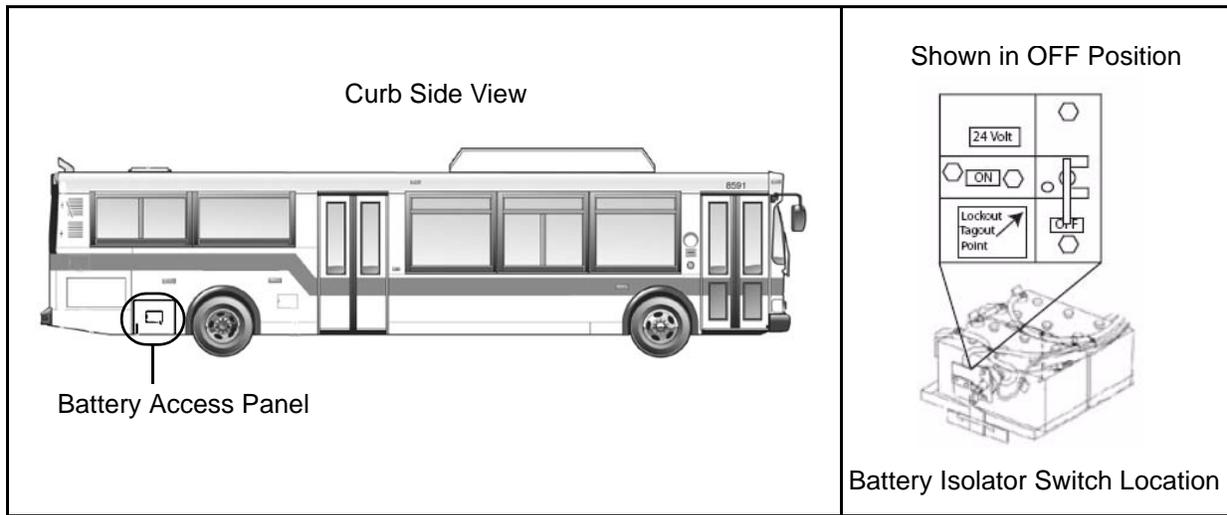

Figure 1-4 Orion VII Battery Isolator Switch Location
1. Open the battery access panel located on the curbside of the vehicle. **See Figure 1-4.**
2. Turn the battery isolator switch to the OFF position. **See Figure 1-4.**